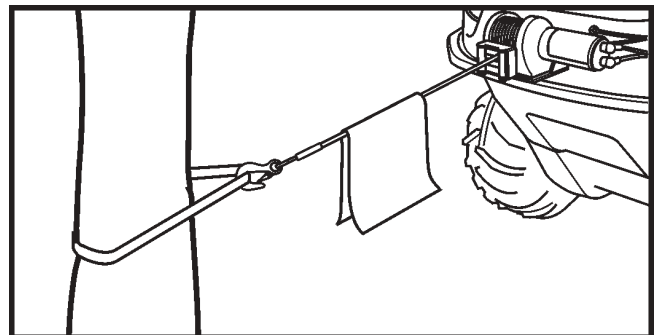

Figure 11-24. Using a cloth damper.
9. It is a good idea to lay a heavy blanket or jacket over the wire rope near the hook end when pulling heavy loads (Figure 11-24). If a wire rope failure should occur, the cloth will act as a damper and help prevent the rope from whipping.